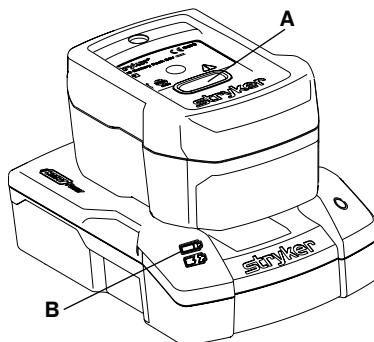

Figure 42 – Charging the SMRT Pak
To charge the **SMRT** Pak (Figure 42):
- The **SMRT** charger LED indicator (B) will flash green while charging (Figure 42). The optimum charge time is two hours.
- When the **SMRT** Pak is charged and ready for use, the **SMRT** charger LED indicator (B) turns to solid green.
2. Press the red release button (A) (Figure 42) and slide the **SMRT** Pak to release the charged and ready **SMRT** Pak from the **SMRT** charger.